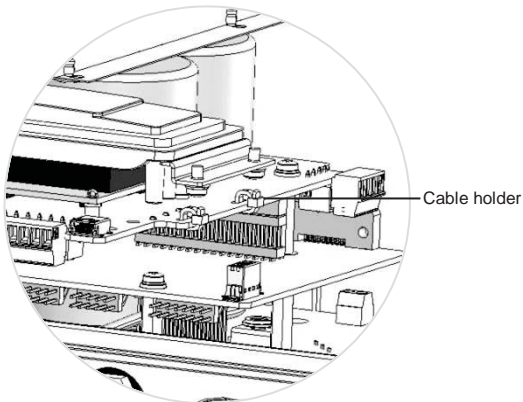

Figure 6: Cable holders on the communication board
- 1 Connect the ZigBee slave module in its place on the communication board, as shown in Figure 6.